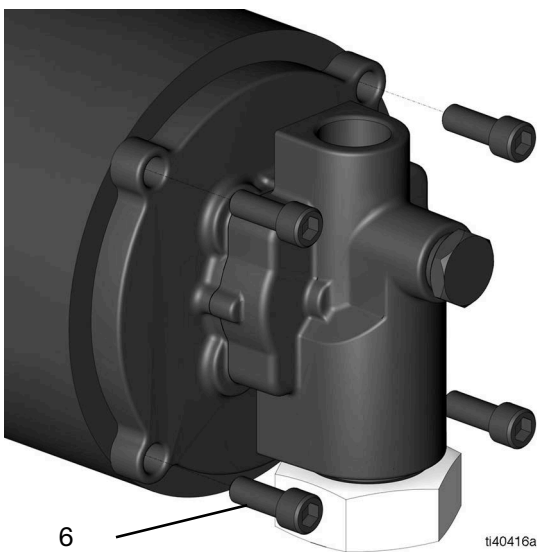

FIG. 8
5. Remove the four Allen screws (6) using a 5/16 in. (8 mm) hex wrench (FIG. 8).
7. Place and tighten the four Allen screws (6) using an 5/15 in. (8 mm) hex wrench (Torque 20 ft-lb, 27.1 N•m) (see FIG. 8).